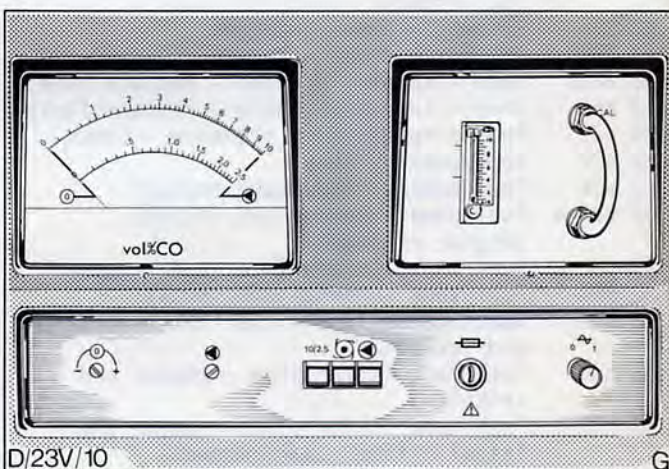

Fig.32. Exhaust gas analyser calibrated in %CO.
b) Exhaust Gas Analyser Fig.32.